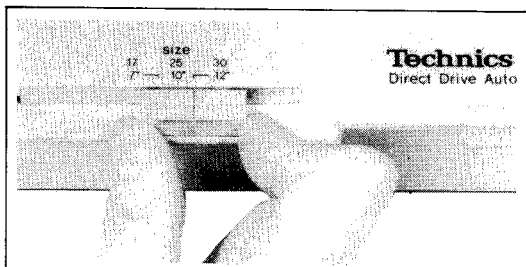

Fig. 4
2. Set the record size select knob to the diameter of the record (7" [17 cm], 10" [25 cm], or 12" [30 cm]) you wish to play. (See Fig. 4.)